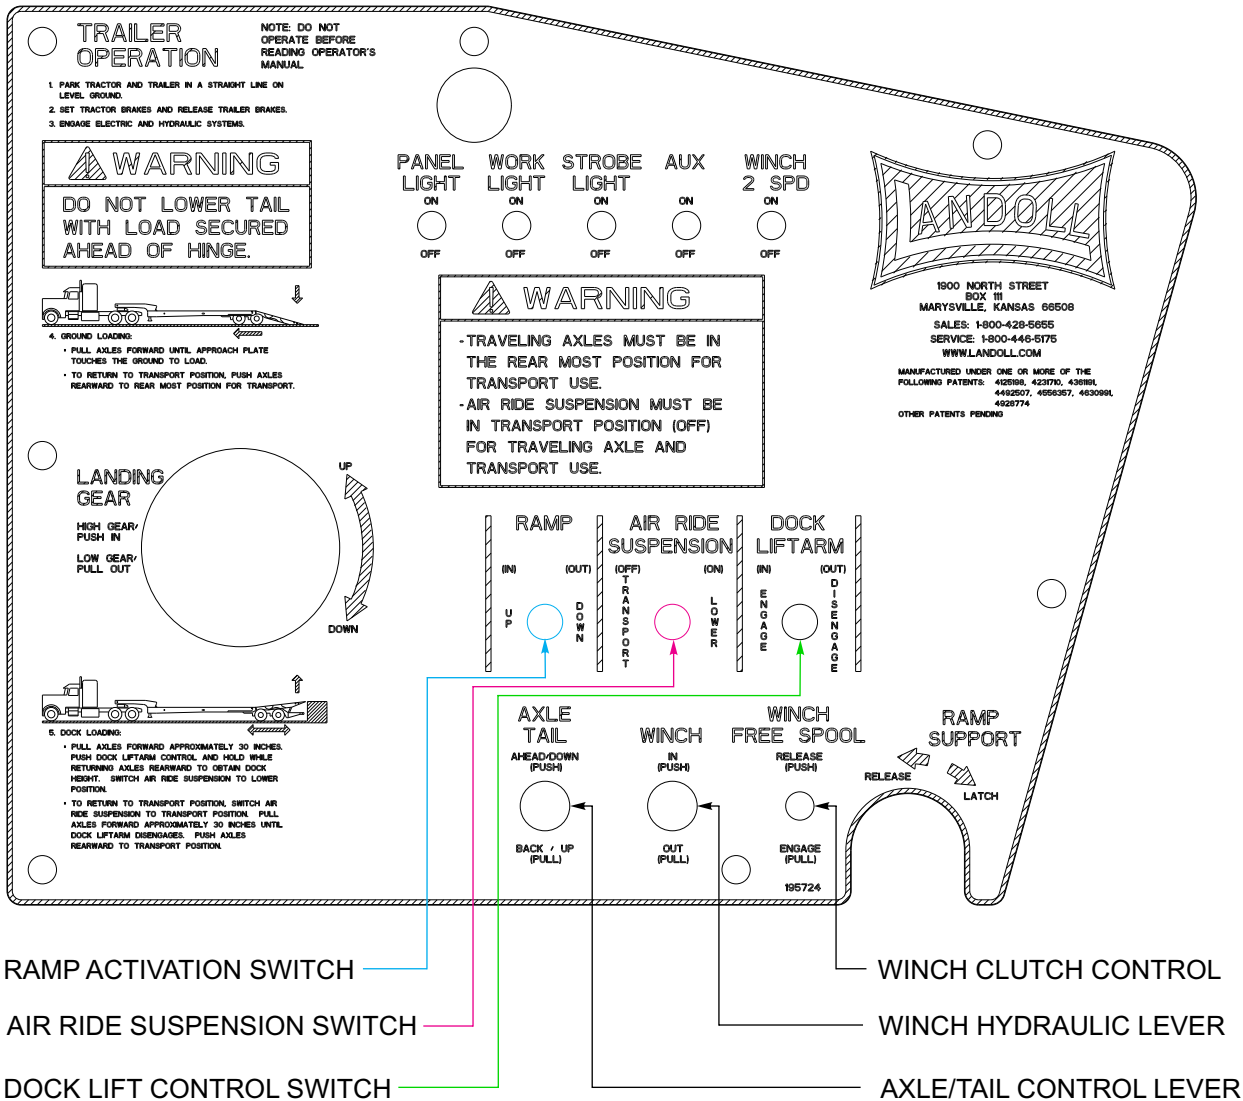

Figure 3-3: Hydraulic Controls
The Axle/Tail Control Lever is located on the control panel (See Figure 3-3.) The lever is used both for loading/unloading and dock leveler operation. See step 2 of “Dock Leveler Control Operation (Option)” on page 3-17 for use of Axle/Tail Control Lever for dock leveler operation. The Axle/Tail Control Lever is beside the winch control lever and has three positions (See Table 3-1.)
1. The 900D Series semitrailer comes equipped with a “dump valve” on the air ride suspension as standard equipment (See Figure 3-3.) The valve has two primary purposes.
The Work Light Switch is on the hydraulic control panel (**See Figure 3-3.**) It illuminates the hydraulic control panel and controls the optional work lights mounted on the bulkhead. The work lights illuminate the upper deck.
1. The Winch Hydraulic lever is located on the driver's side of the semitrailer under the outer frame beam (See Figure 3-3.) It is the second lever from the left and has three positions (See Table 3-2.)